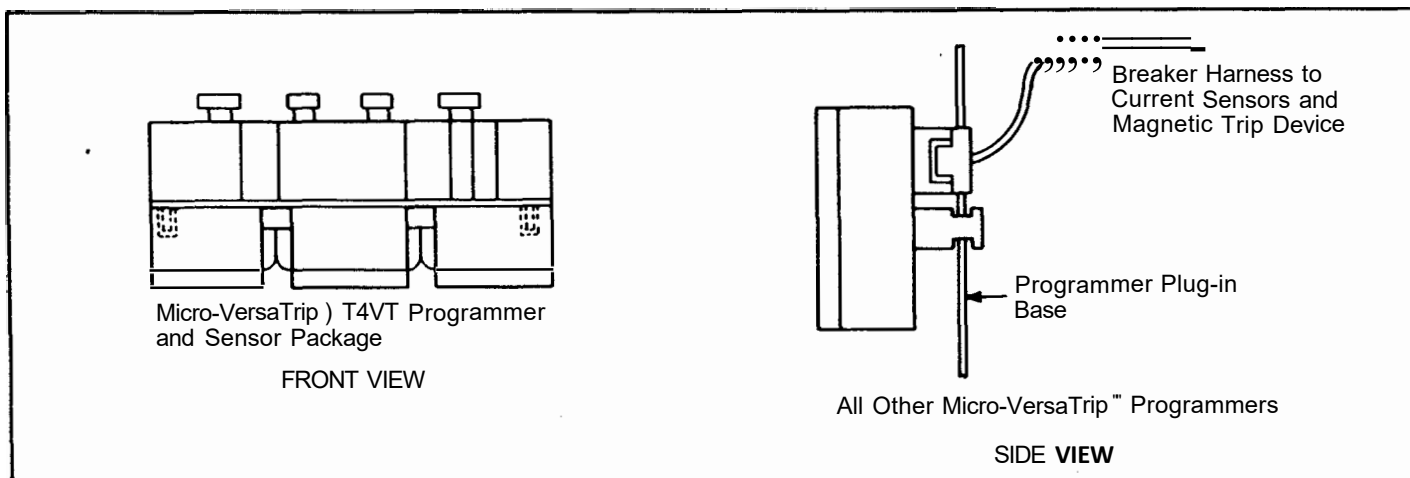

Fig. 3. Normal in-service breaker connection
**CAUTION:** NEVER DISENGAGE THE PROGRAMMER ON A BREAKER THAT IS ENERGIZED AND CARRYING LOAD CURRENT. THIS WILL OPEN-CIRCUIT THE CURRENT SENSORS, ALLOWING DANGEROUS AND DAMAGING VOLTAGES TO DEVELOP. SEE FIG. 3